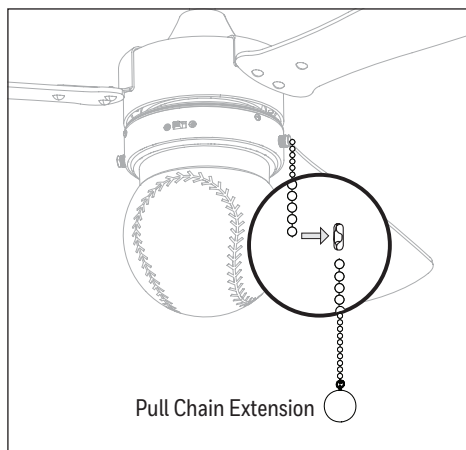

Figure 5.10
10. Attach pull chain extensions to the pull chains. **Note:** When facing the reverse switch, the fan pull chain is on the right and the light pull chain is on the left (Figure 5.10).